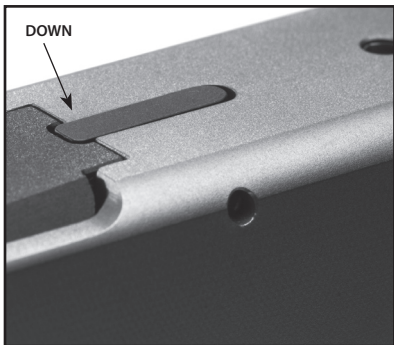
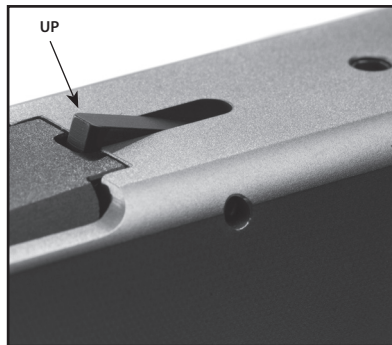

Figure 12-1
Figure 12-2
Your XpM firearm has a loaded chamber indicator (See Figure 12-1.) The indicator allows you to observe whether a cartridge is in the chamber. When a cartridge is in the chamber the indicator raises above the barrel (See Figure 12-2.) **When the loaded chamber indicator is up, the firearm is ready to fire.**
6. The loaded chamber indicator will be in the up position (See Figure 12-2.)